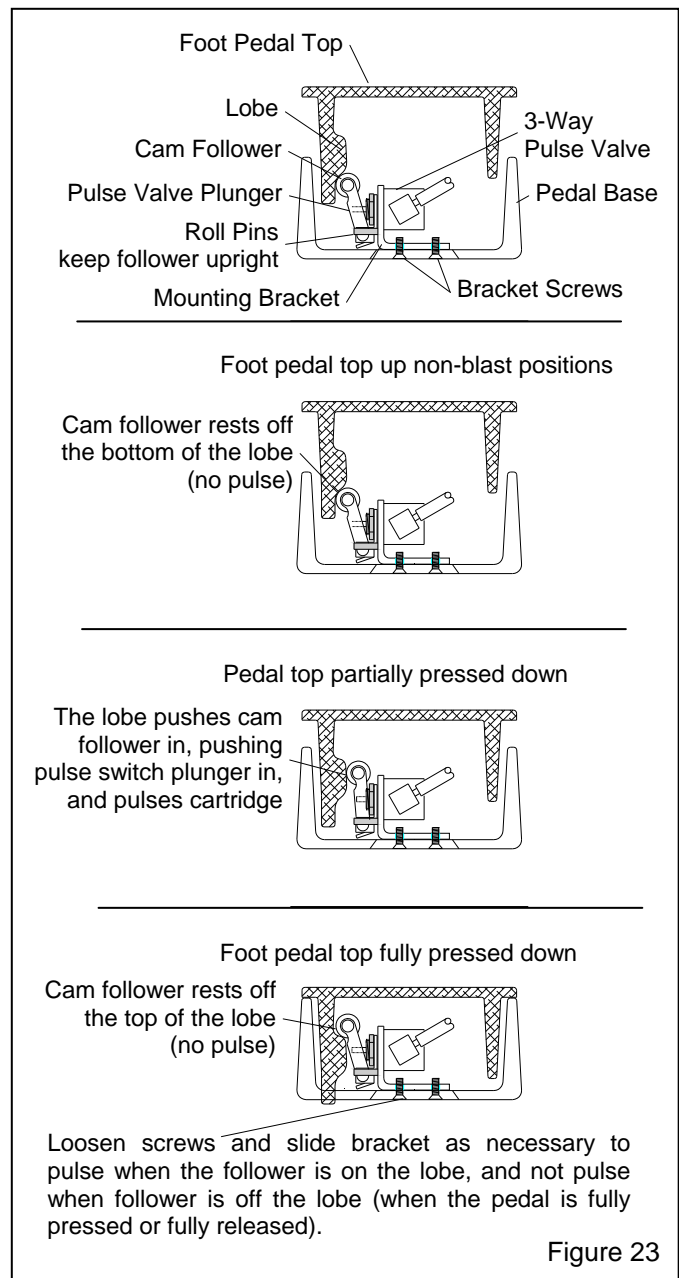

Figure 23
**8.15.2** Refer to Figure 23 and make sure the 3-way pulse valve has not come loose from the mounting bracket. Tighten the retaining nut as needed to secure.
**8.15.3** If the cam follower tilts to one side, one or both roll pins are bent or missing. Remove the two screws on the bottom of the pedal and remove the switch and cam follower assembly. Center the cam follower and replace roll pins as needed to hold the cam follower in place. Refer to Figure 23.
**8.15.4** Check alignment of pulse-valve cam follower: With the exhauster running and with blast pressure adjusted to 0 psi, hold the foot pedal in hand and fully press the pedal top. The collector should pulse as the cam follower rides over the lobe on the pedal top when the pedal is pressed, and again when the pedal is released, as shown in Figure 23. Note: The pedal should be rapidly pressed and released so the cam follower quickly rides over the lobe; prolonged engagement of the pulse valve will lengthen the pulse, which does not clean the cartridge and wastes compressed air.